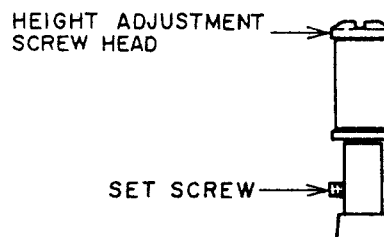

Fig. 4-11
- 1) Slightly loosen the set screw at the lower part of the LOADING LEADERS (L), (R) so that the LOADING LEADER can be adjusted with reasonable tightness. (Refer to Fig. 4-11.)